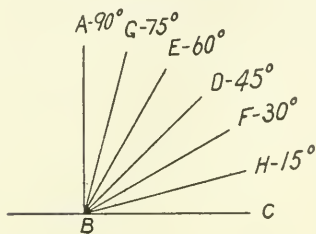
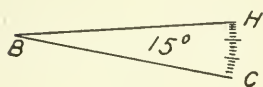

Fig. 592
Fig. 593
9. *To lay out a protractor for obtaining certain angles* (Fig. 592).—Draw the right angle ABC (Prob. 2). Bisect it with the line BD (Prob. 7), and trisect it with the lines BE and BF (Prob. 14). Bisect ABE and FBC with the lines BG and BH. This divides the right angle into divisions of 15° each, which is as far as the process can be carried with geometrical accuracy. Each of these divisions can be divided into degrees, with approximate accuracy, by first dividing the arc HC (Fig. 593) into three parts with dividers, as nearly as can be done by eye, and then dividing each of these thirds into five parts.